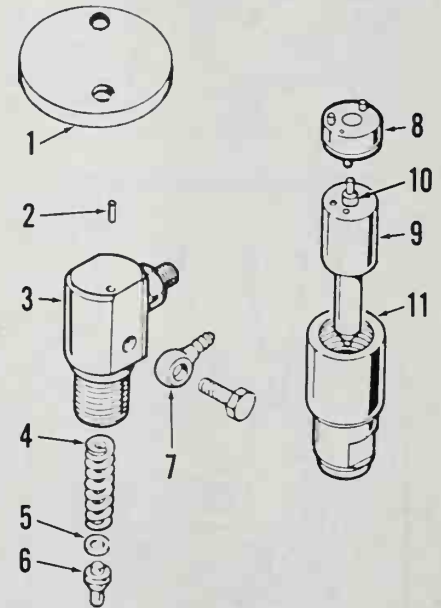

Fig. L1-10 — Exploded view of injector.
REMOVE AND REINSTALL. To remove injector, first clean dirt from injector, injection line, return line and cylinder head. Disconnect return line and injection line and immediately cap or plug all openings. Unscrew retainer plate nuts and lift off retainer plate (1—Fig. L1-10) being careful not to lose dowel pin (2). Injector may now be carefully removed from cylinder head. Do not lose shims between injector and cylinder head.
Opening pressure with a new spring (4—Fig. L1-10) should be 20.5-22.5 MPa while opening pressure with a used spring should be 19.6-21.5 MPa. Opening pressure is adjusted by varying number and thickness of shims (5). Valve should not show leakage at orifice spray holes for 10 seconds at 17.6 MPa.
OVERHAUL. Clamp nozzle body (3—Fig. L1-10) in a vise with nozzle tip pointing upward. Remove nozzle holder nut (11). Remove nozzle tip (9) with valve (10) and spacer (8). Invert nozzle body (3) and remove spring seat (6), shim (5) and spring (4). Thoroughly clean all parts in a suitable solvent. Clean inside orifice end of nozzle tip with a wooden cleaning stick. The 0.20 mm diameter orifice spray holes may be cleaned by inserting a cleaning wire slightly smaller than spray hole. When reassembling injector, make certain all components are clean and wet with clean diesel fuel oil. Tighten nozzle holder nut (11) to 60-90 N·m.